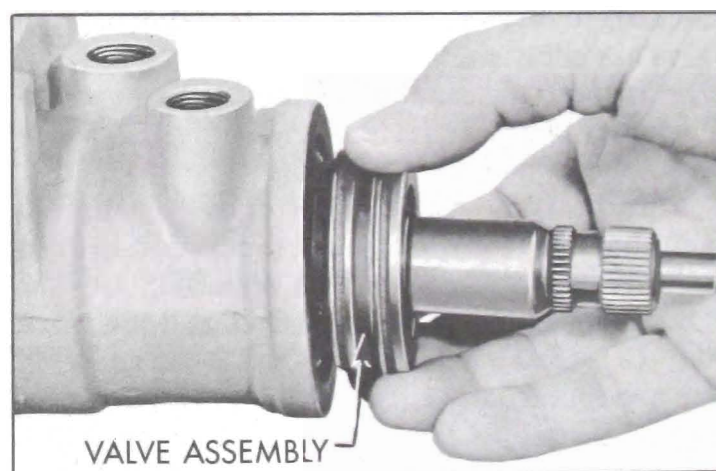
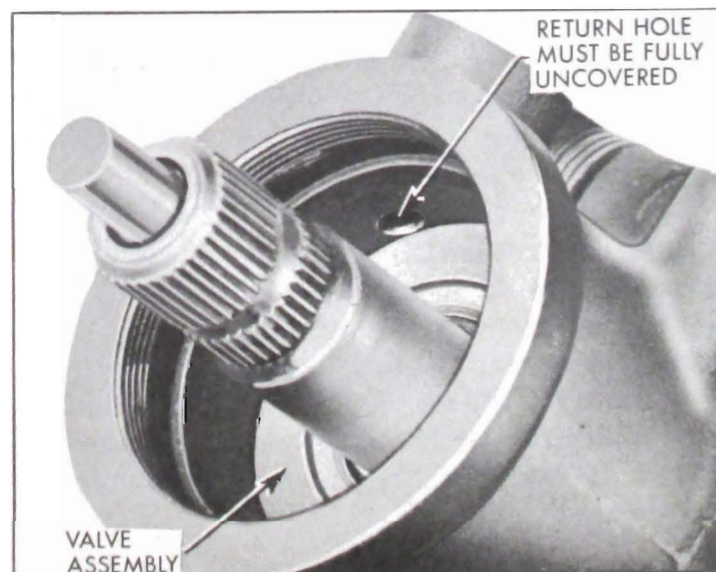

Figure 8-41—Inserting Valve Assembly in Housing
Figure 8-42—Valve Assembly Properly Installed in Housing
1. Align the narrow pin slot on the valve body with the valve body drive pin on the worm. Insert the valve assembly into the gear housing by pressing against the valve body with the finger tips. *Do not press on stub shaft or torsion bar.* See Figure 8-41. The return hole in the gear housing should be fully visible when valve is assembled properly. See Figure 8-42.
2. Insert the valve assembly and worm in gear housing as an integral unit. See Figure 8-42. Continue installation of rotary valve assembly and adjuster plug assembly as outlined in Paragraph 8-14 (h). Do not install lower flange on stub shaft.